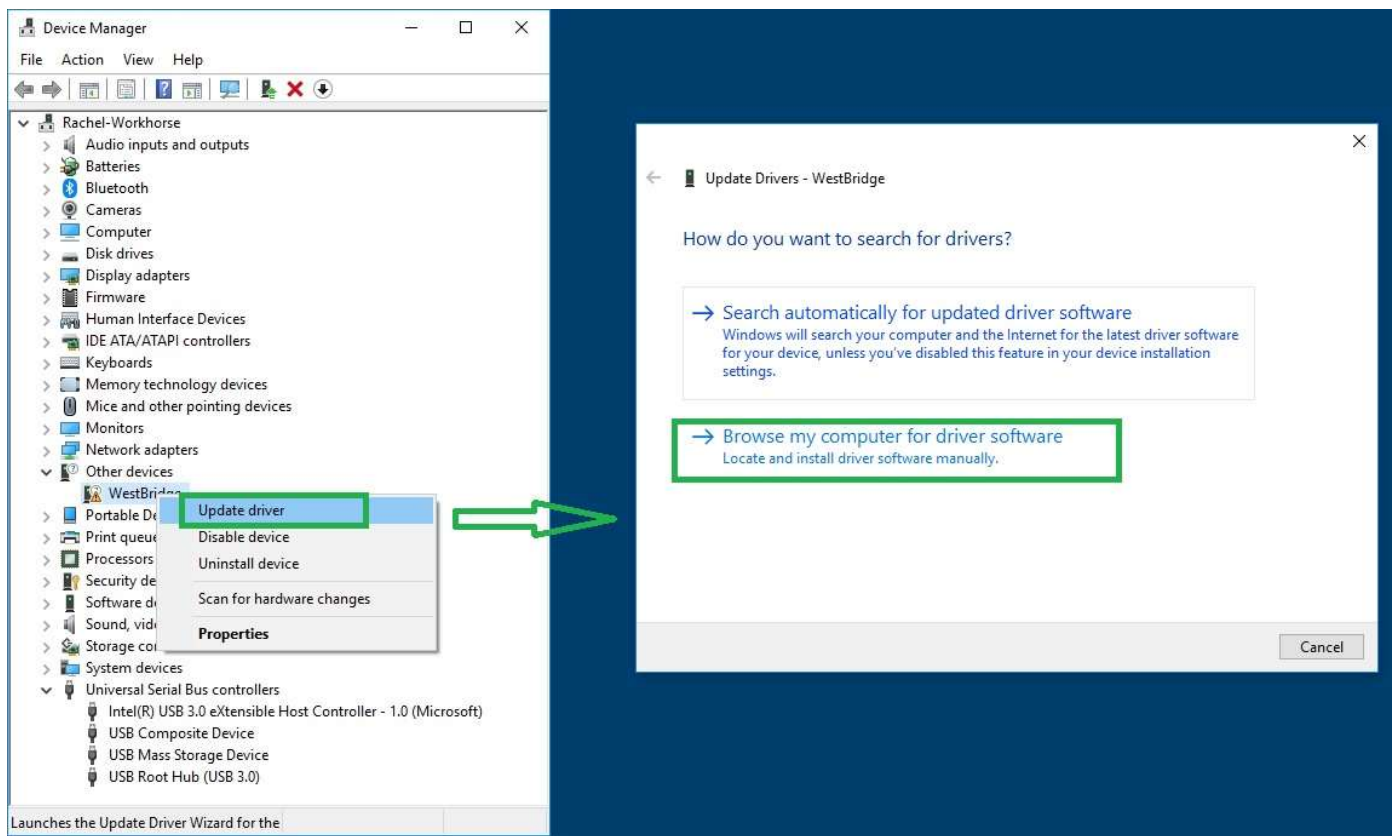

Figure 13: ADC256 driver installation. Steps 3 - 5 .
5. Follow Figure 13. Choose *Browse ...*, *Browse For Folder* with the ADC256 driver, next choose subfolder with your Windows version. Press OK. Note, that this driver supports both 64-bit and 32-bit Windows, but the ADC256 software supports only 64-bit versions of Windows.